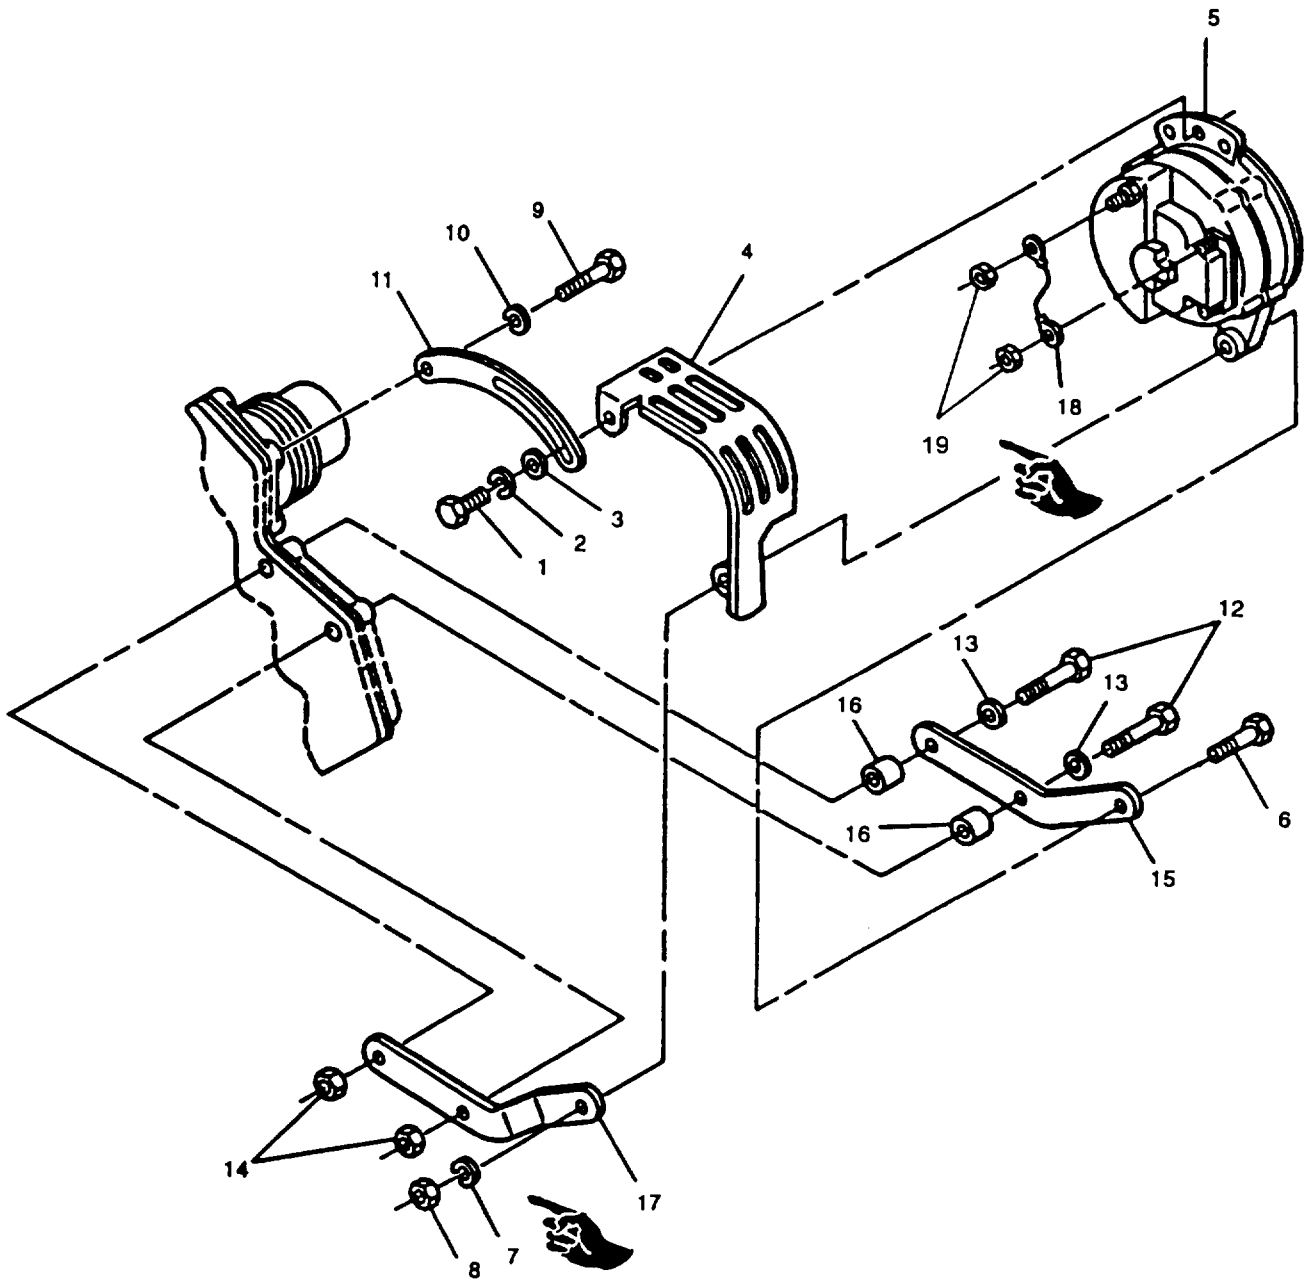

FIGURE 3-5. Battery Charging Alternator and Mounting Brackets
- c. Remove capscrew (1, FIGURE 3-5), lockwasher (2), and washer (3); securing bracket (4) and battery charging alternator (5). Discard lockwasher (2).
- d. Support weight of battery charging alternator and remove capscrew (6), lockwasher (7), and nut (8); securing bracket (4) and alternator (5). Remove bracket (4) and alternator (5). Discard lockwasher (7).
- e. If necessary, remove capscrew (9) and lockwasher (10) securing adjusting strap (11) to water pump mounting hole. Remove adjusting strap. Discard lockwasher (10).
- f. If necessary, remove two capscrews (12), washers (13), spacers (16), and nuts (14) securing mounting brackets (15 and 17). Remove brackets (15 and 17).
- g. If necessary, loosen and remove nuts (19) from terminals POS plus OUTPUT and SEN. Remove jumper wire (18).
- g. If damaged, replace retainer (21) in rear housing (20).
- h. Position rear housing (20) over slip rings of rotor assembly (29) with front and rear housing bolt holes aligned and stator leads extending through openings at top of rear housing (20).
- i. Install through bolts (19) and tighten evenly 50 to 60 in-lbs (5.65 to 6.78 Nm).
- j. If necessary, remove through bolts (19) and rotate rear housing (20) and stator (22) to align housings as match marked on disassembly. Reinstall bolts and torque evenly 50 to 60 in-lbs (5.65 to 6.78 Nm).
- k. Insert strap (14) of rectifier bridge (18) through slot in diode-trio (17) body. Bend strap (14) over B+ terminal and secure with cone washer (13) and nut (12).
- l. Apply thin film of heat sink compound (5202217) to back of rectifier bridge (18) and mating area of rear housing (20).
- m. Install diode-trio (17) and rectifier bridge (18) on rear housing (20) with bolts (16) and connect stator leads with screws (15). Remove tags.
- n. Install voltage regulator (11) to rear housing (20) with insulating washers (10) and bolts (9).
- o. Install brush assembly (8) and strap (7) with washer (32) and nuts (6).
- p. Position felt gasket (5) in back cover (4) and install back cover on rear housing (20) with bolts (3).
- q. Install terminal washers (2), terminal nuts (1), and jumper (18, FIGURE 3-5).
- (1) Mount battery charging alternator on test fixture capable of providing 5000 alternator rpm.
- a. If removed, install jumper wire (18, FIGURE 3-5) and nuts (19).
- b. If removed, position mounting brackets (15 and 17) on timing gear cover mounting holes; secure with two capscrews (12), washers (13), spacers (16), and nuts (14).
- c. If removed, position adjusting strap (11) on water pump mounting hole; secure with capscrew (9) and new lockwasher (10).
- d. Position battery charging alternator (5) and bracket (4) between mounting brackets (15 and 17) and secure with capscrew (6), new lockwasher (7), and nut (8). Do not tighten.
- e. Secure battery charging alternator (5) and bracket (4) to adjusting strap (11) with capscrew (1), new lockwasher (2), and washer (3). Do not tighten.